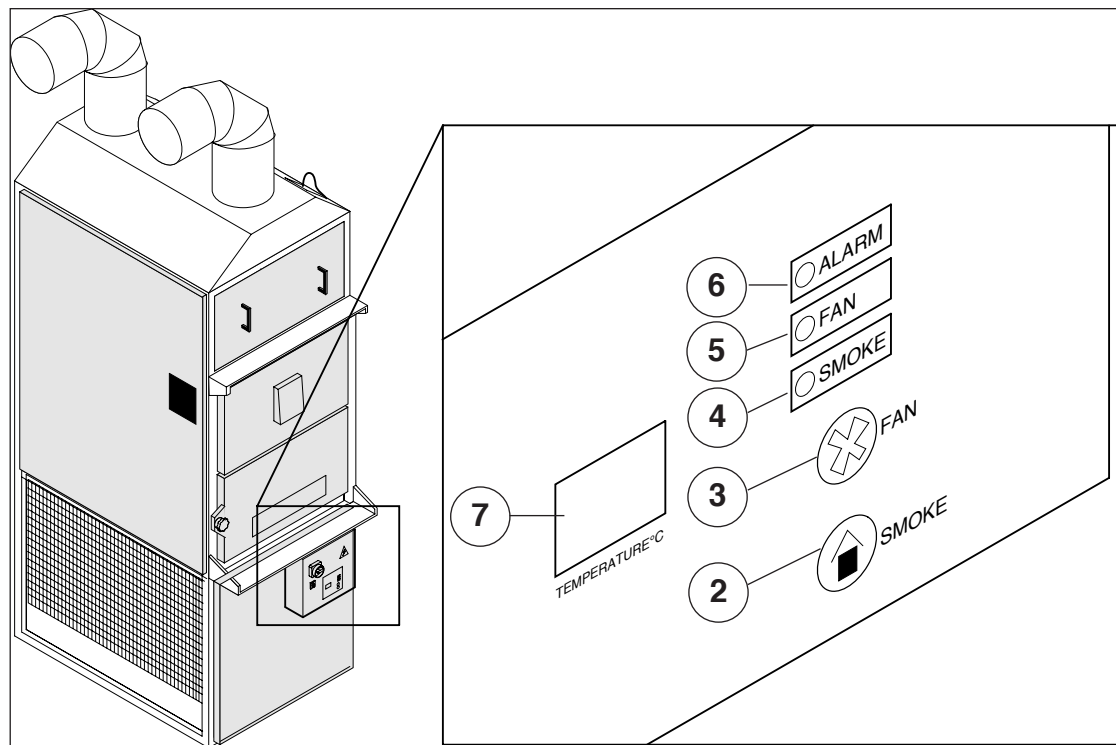

FIG.16
IMPORTANT: to turn on cold air circulation, press the fumes vent button (pos.3 fig.16) in absence of combustion.
When temperature reaches 45°C, the air vents will activate automatically (pos.5 in fig.16), and they will automatically switch off as well when temperature drops below 41°C.